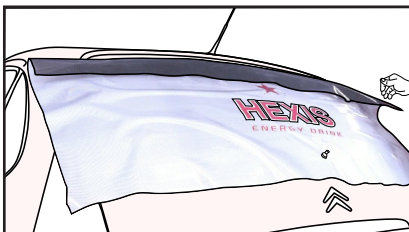

Figure 13
- › Fold down the top of the film so that the adhesive side does not come into contact with a bodywork part such as spoilers. (FIG. 13)